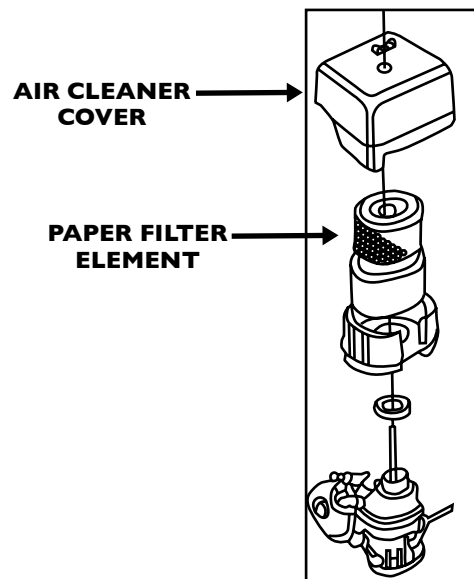

Fig 17. Engine Air Cleaner
1. Remove the air cleaner cover and foam filter element as shown (Figure 17).